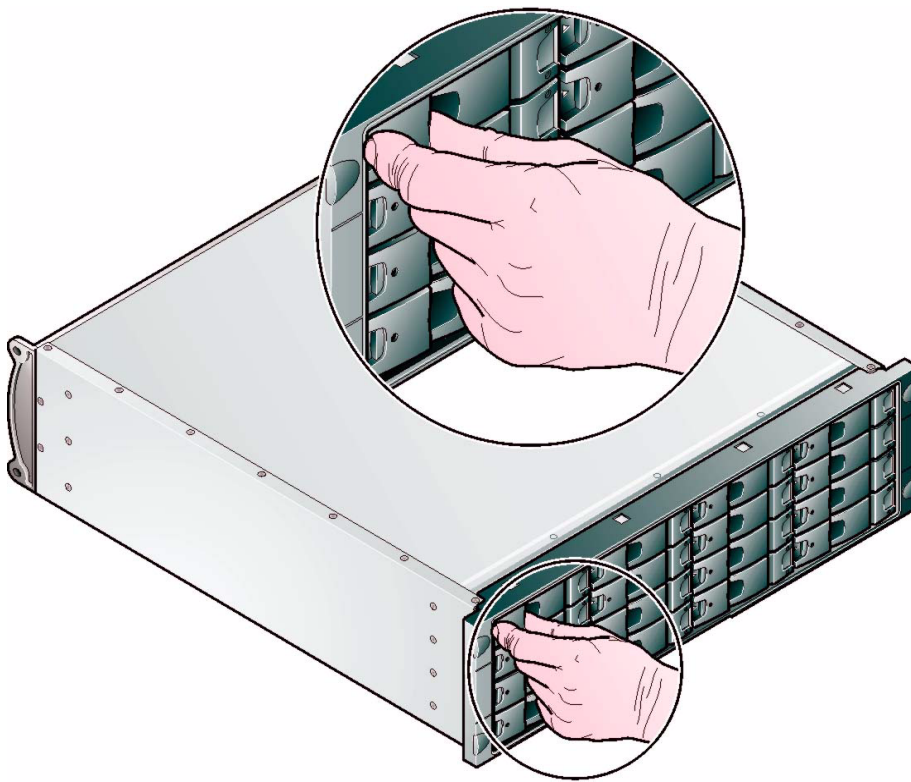

Figure 2-15 Installing an SATA Drive Carrier Module (3)
- 3 Cam the carrier home - the camming foot on the base of the carrier will engage into a slot in the enclosure. Continue to push firmly until the handle fully engages. A click should be heard as the latch engages and holds the handle closed (Figure 2-15).